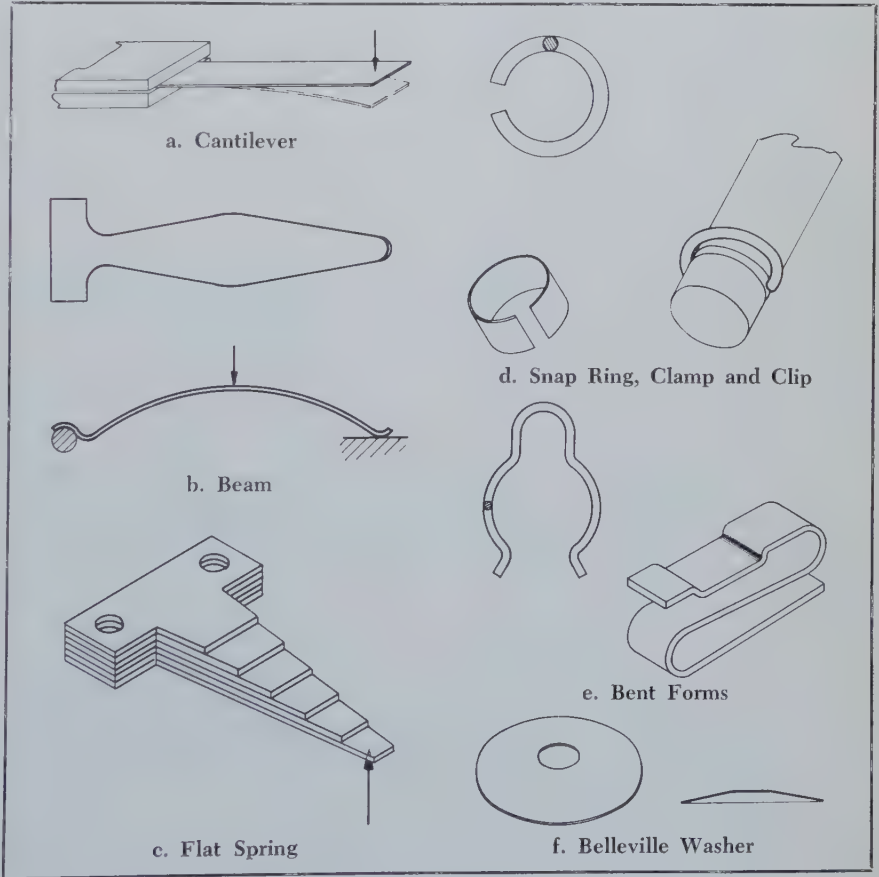

FIGURE 6. Miscellaneous Springs.
Other interesting and commonly used types of springs are covered under a "miscellaneous" heading. In this category are: (1) flat springs (cantilevers, beam and leaf), (2) bent forms, (3) snap rings, and (4) spring washers (Figure 6). These springs store and deliver energy through bending.